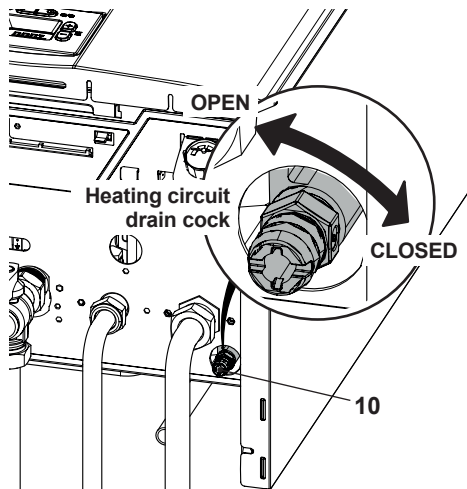

Figure 9.4
- Loosen the heating circuit drain cock 10 indicated in Figure 9.4.